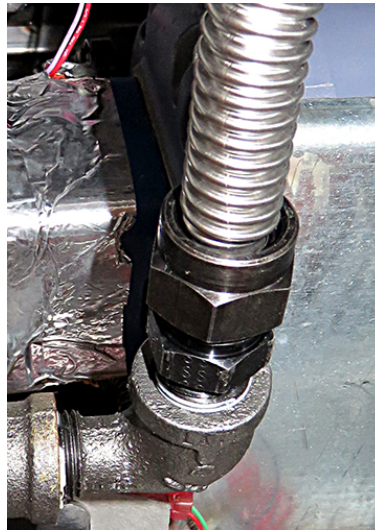

Figure 21
23. Connect the other end of the flex hose to the adaptor attached to the street elbow in step 10 (see Figure 21).